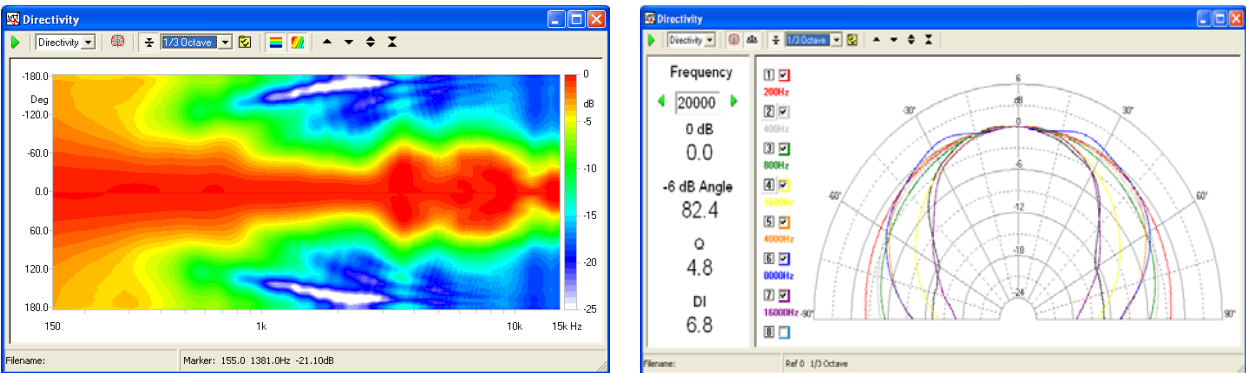

Figure 12.2
-  Selects an half space polar pattern. Refer to the right Fig.12.2.